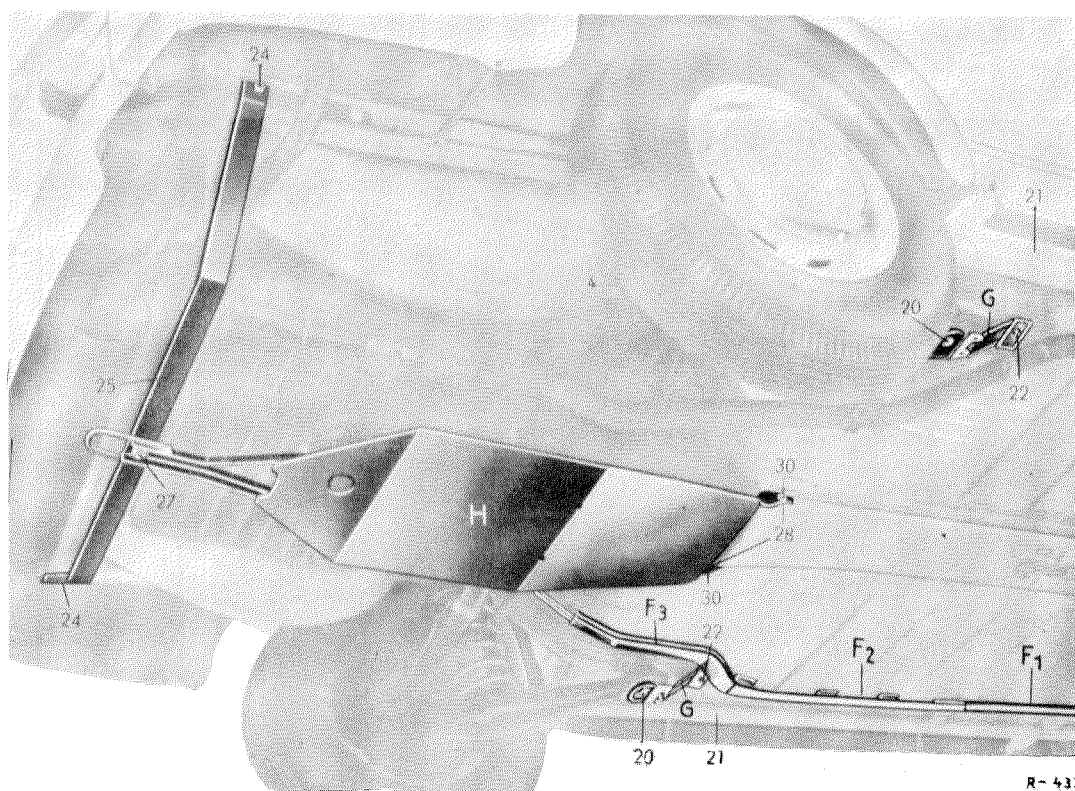

Fig. 52 — 1/3
2. Insert the guard plates (G), install the castellated shoulder nuts (20) again and position the guard plates (G) so that they are parallel to the side member halves (21) (see Fig. 52 — 1/3).
3. With the guard plates in this position, mark out on the chassis base panel the hole for the screw (22) on the guard plate, drill the hole 4.1 mm diameter and deburr it (Fig. 52 — 1/3).
4. Drill a 4.1 mm diameter hole at the center of each of the reinforcing plates (23) (see Fig. 52 — 1/1).
7. If the first version of the guard plates (G) is being installed, they should be fixed with a hexagon screw (22) M 8 × 22 and a lock washer (see Fig. 52 — 1/3) in each plate. If the recent version is being installed, they should be fixed with two hexagon tapping screws S 6.3 × 13 DIN 7976 and lock washers B 6 DIN 137.
8. Screw on the castellated shoulder nuts (20), tighten to a torque of 8 mkg and lock with splints 3 × 25.
1. Unscrew the rear fixing screws (24) of the two bumper brackets (see Fig. 52 — 1/3) and screw the supporting sling (25) to the chassis base panel with two new hexagon screws (24) M 10 × 30 and lock washers.
2. Screw the guard plate (H), from underneath, to the supporting sling (25) with the hexagon screw (27) M 10 × 20 and nut and lock washer (see Fig. 52 — 1/3). Adjust the guard plate to fit, if necessary tapping the two lugs (28) at the front of the guard plate (H) so that they fit against the channel.
3. When fitting the guard plate (H), raise it so that there is just 5 — 6 mm space between the bottom of the transmission channel and the plate. With the plate in this position, drill in the side of the transmission tunnel the 11 mm diameter holes necessary for the hexagon screws (30) and deburr them (see Fig. 52 — 1/3).
4. Screw the guard plate (H) — i. e., the lugs (28) to the channel with the two hexagon screws (30) M 10 × 20 with nuts and lock washers.
5. Tighten up the fixing screws (24) and (27) at the supporting sling (25).
Note: A towing hook is welded to the guard plate for the rear axle and this may safely be used for towing other vehicles (see Fig. 52—1/3).
1. Cut open the rubber grommet J₁, fit it on the flexible drive shaft and insert it in the channel at the outer face of the fork support (see Fig. 52 — 1/1).